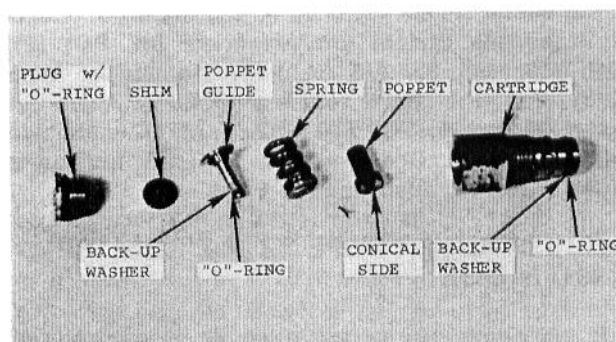

Fig. 13 — Circuit Relief Cartridge Used In MF Part No. 708 714 M92
2. Disassemble this relief valve as follows: ... see Fig. 13: